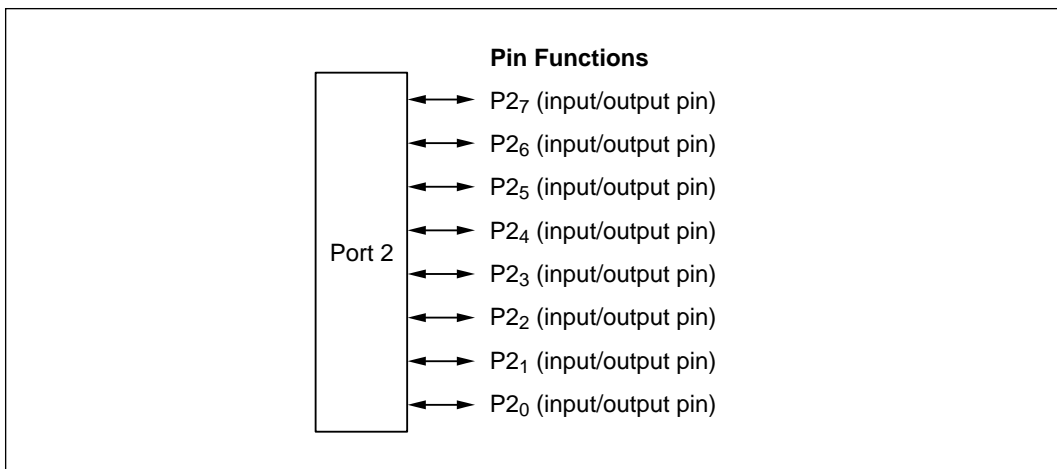

Figure 10-11 Pin Functions in Modes 2 and 7
(2) Pin Functions in Modes 2 and 7: Port 2 consists of general-purpose input/output pins. Input or output can be selected separately for each pin. A pin becomes an output pin if the corresponding P2DDR bit is set to 1 and an input pin if this bit is cleared to 0. Figure 10-11 shows the pin functions in modes 2 and 7.